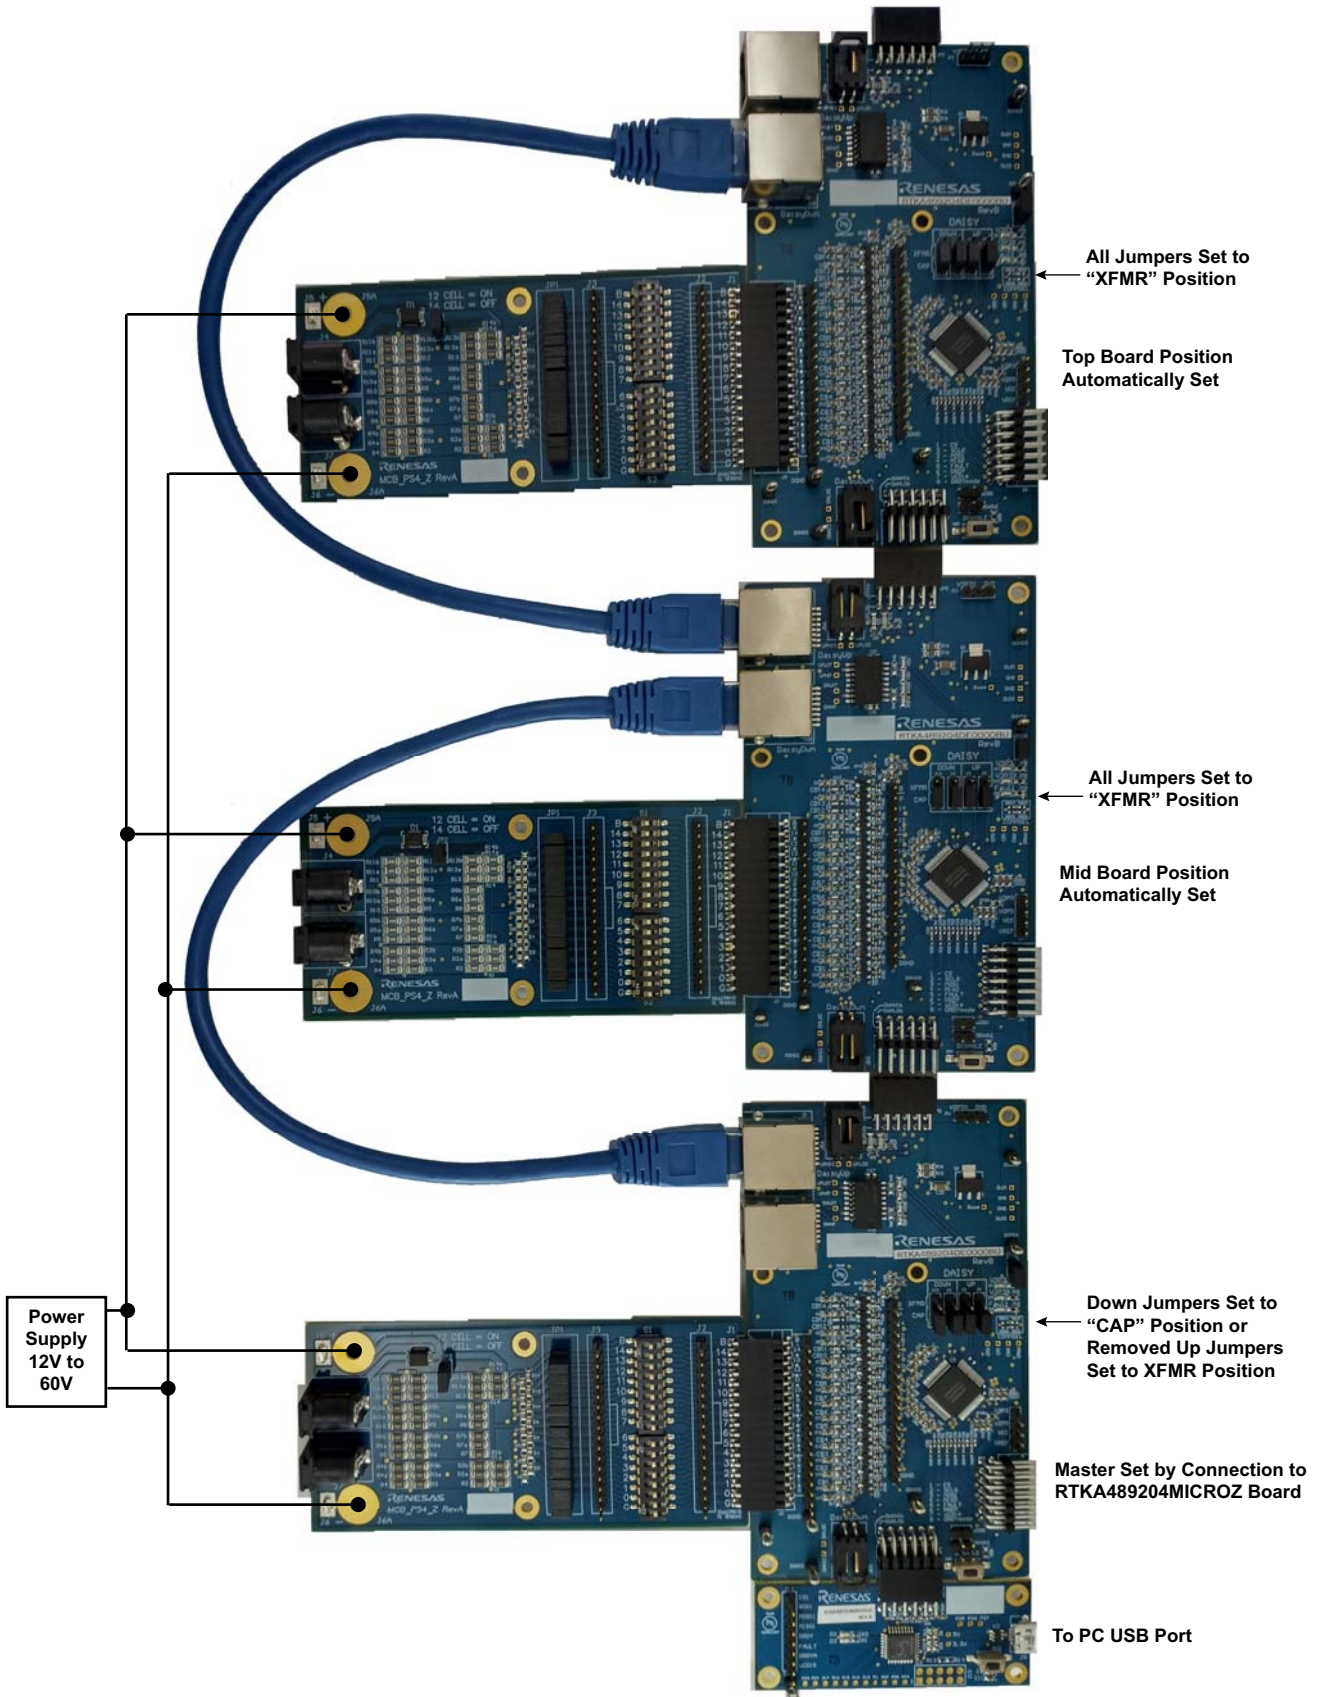

Figure 7. RTKA489204DK000BU RevB in 36-Cell Cable Connect Daisy Chain Configuration (Transformer)
- b. With transformer isolation, the boards are connected as shown in Figure 7. When using cables, connect the wires as shown in Table 1. (Note: The boards are configured to prevent both direct connection and twisted pair cable connection on the same port.)